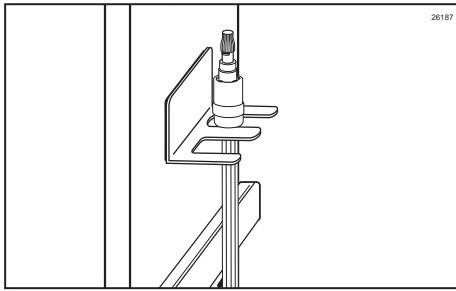

Figure 150
6. The 9-Tube Assembly slides into the smaller slot on the Bracket so that the coupler casing is above the bracket and the syrup tubes hang below. (See Figure 150.)